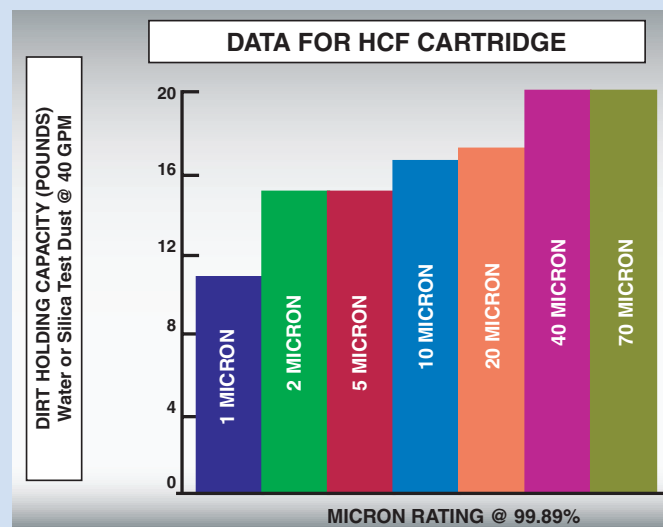

Figure 1: Dirt holding capacity of HCF cartridge filters.
- Changing to a HC filter, such as an HCF, UHCF or UCF. (Figures 1, 2 & 3)